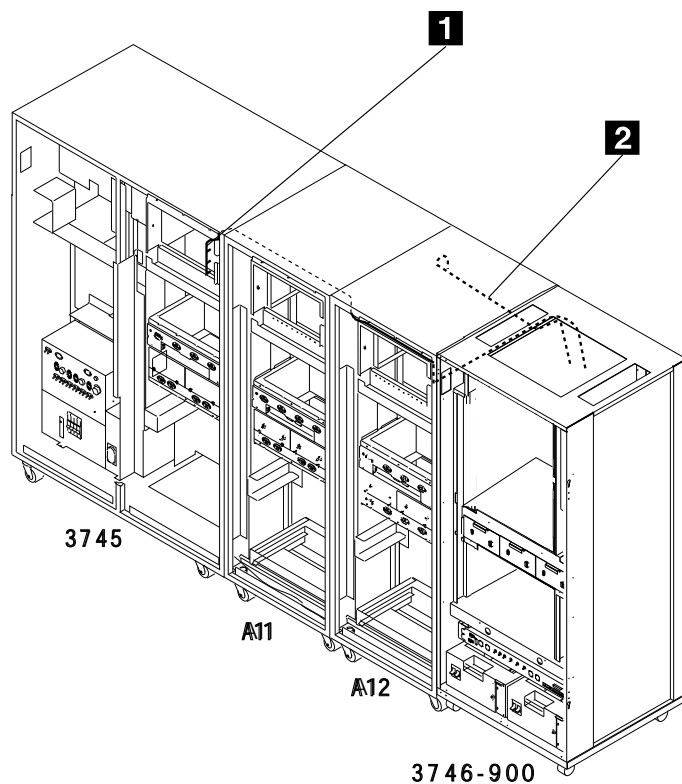

Figure 4-32. Cabling From the 3746-900 to the 3745 and 3746-A12 (Front View)
- Step 16. ____ Unroll and route these DMA cables through the upper side windows through the 3746-A11 and through the 3746-A12 from the 3746-900 to the 3745 at board 01G-A1 (see Figure 4-32 on page 4-34). Fold the DMA cables going to W02, W03, W04 and W05 according to fold marks on these cables.